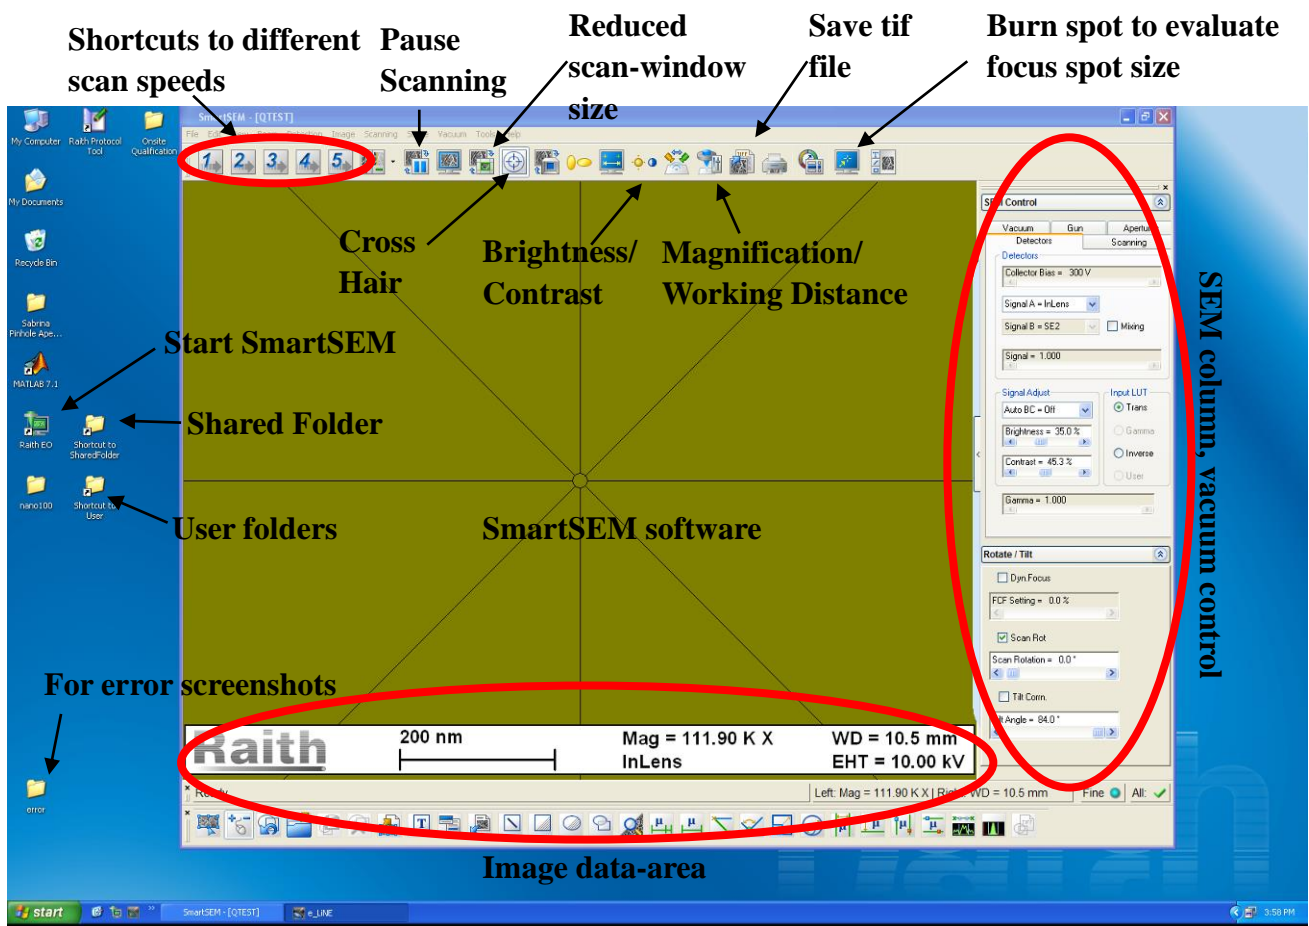
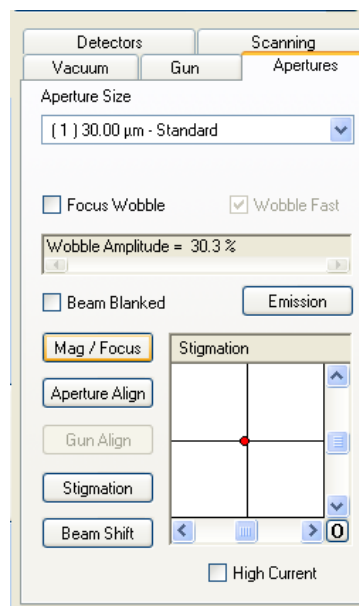
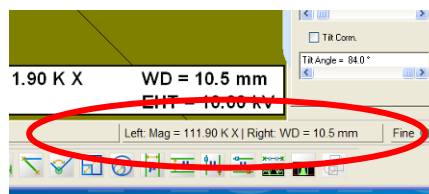

Figure 3 Left-hand screen of e-Line terminal running SmartSEM software.
Figure 13: Apertures tab.
Figure 14: Mouse button configuration.
The SmartSEM software should always be running. (It is started with the Raith EO icon on the desktop - see figure 3). If for some reason somebody logged off, you can log on with the username 'qtest'. No password is set.
The most important functions of the SmartSEM software are marked in figure 3.
11. Zoom out all the way in the SmartSEM software. For example by clicking on Mag/Focus in the Apertures tab (see figure 13), then holding the left mouse button clicked inside the SEM image and moving the mouse to reduce the magnification. The current functions of the mouse buttons are always shown underneath the imaging area (see figure 14).
12. Set the working distance to 10mm by double-clicking on WD (see figure 14) and entering 10 into the dialogue box. You should be able to see the scratched surface of the sample holder.
15. Choose the aperture you want to use (30 μ m is standard) using the drop-down box in figure 13. You may want to choose a different aperture size to increase or decrease the beam current for your exposure.
16. Next this aperture needs to be aligned (Especially when you have changed between apertures). Click on the check box focus wobble shown in figure 13. Move the reduced scan area so that it is centered on for example a single polystyrene bead. Then click on 'Aperture Align' button shown in figure 13. The position of the aperture can now be controlled using the scroll bars shown in figure 13. The aim is to minimize the left-right and up-down movement of the image during focus wobble. The horizontal scroll bar adjusts up-down movement and the vertical one adjusts left-right movement. Once the movement of the image is neutral de-select the focus-wobble checkbox.
17. Adjust X and Y stigmation of the focus. The focus has not necessarily a circular shape. This shape can be adjusted using the stigmation controls. First reduce the scanning area (see figure 3) and center it on a polystyrene bead and use scan-speed-setting '4' to get a low-noise image that is refreshed quickly. Click on the stigmation button shown in figure 13. Hold the left mouse button inside the imaging area and use alternate up-down and left-right movements of the mouse to find the optimal focus. It is best to always go from complete-defocus via good-focus to complete-defocus to really find the global optimal stigmation. If the stigmation or aperture alignment is far off you may not get a good image at 50k magnification. In that case you will have to do steps 16 and 17 first at a lower magnification.